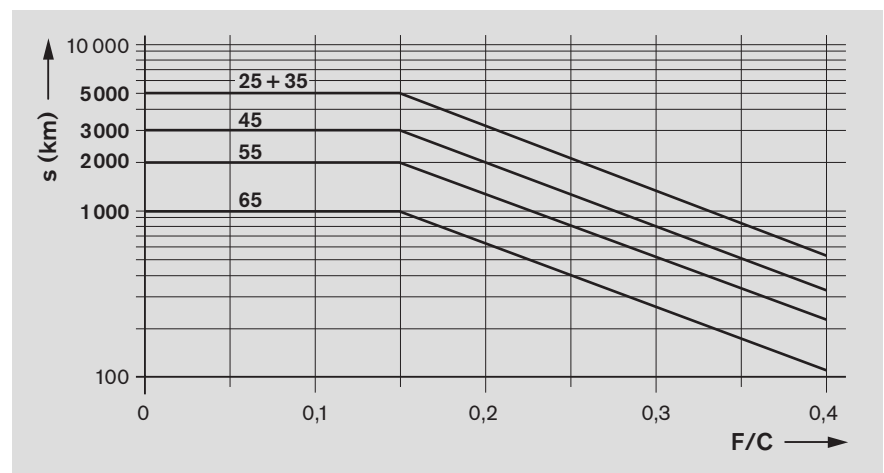

Fig. 4
- Check the front lubrication units when the system has covered the travel distance specified Fig. 4.
We recommend replacing the front lube units when the specified travel according to Fig. 4 has been reached or, at the latest, after 2 years. Before mounting the new front lube units, the runner block has to be relubricated with grease.
- When the travel distance shown as the relubrication interval in Fig. 4 has been reached, apply the relubrication quantity as specified in Table 4.